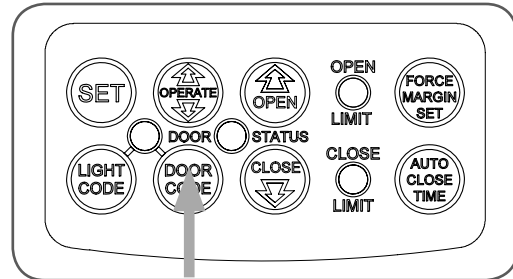

fig 27
- Press and hold the DOOR CODE BUTTON (**Fig. 27**).
- While switched off, press and hold the DOOR CODE BUTTON (**Fig. 27**). Turn on power to the opener while holding this button.